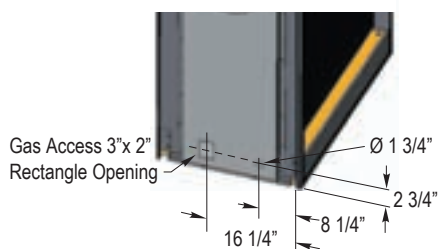

Figure 21. Gas line access.
- See **Figure 21** below for location of gas line access.
When covering the upper metal portion of the fireplace, (as shown, Fig.21) with a non-combustible material, Please **Note:** The decorative facing materials may be subject to temperatures in excess of 250° F. This should be considered when selecting facing materials.